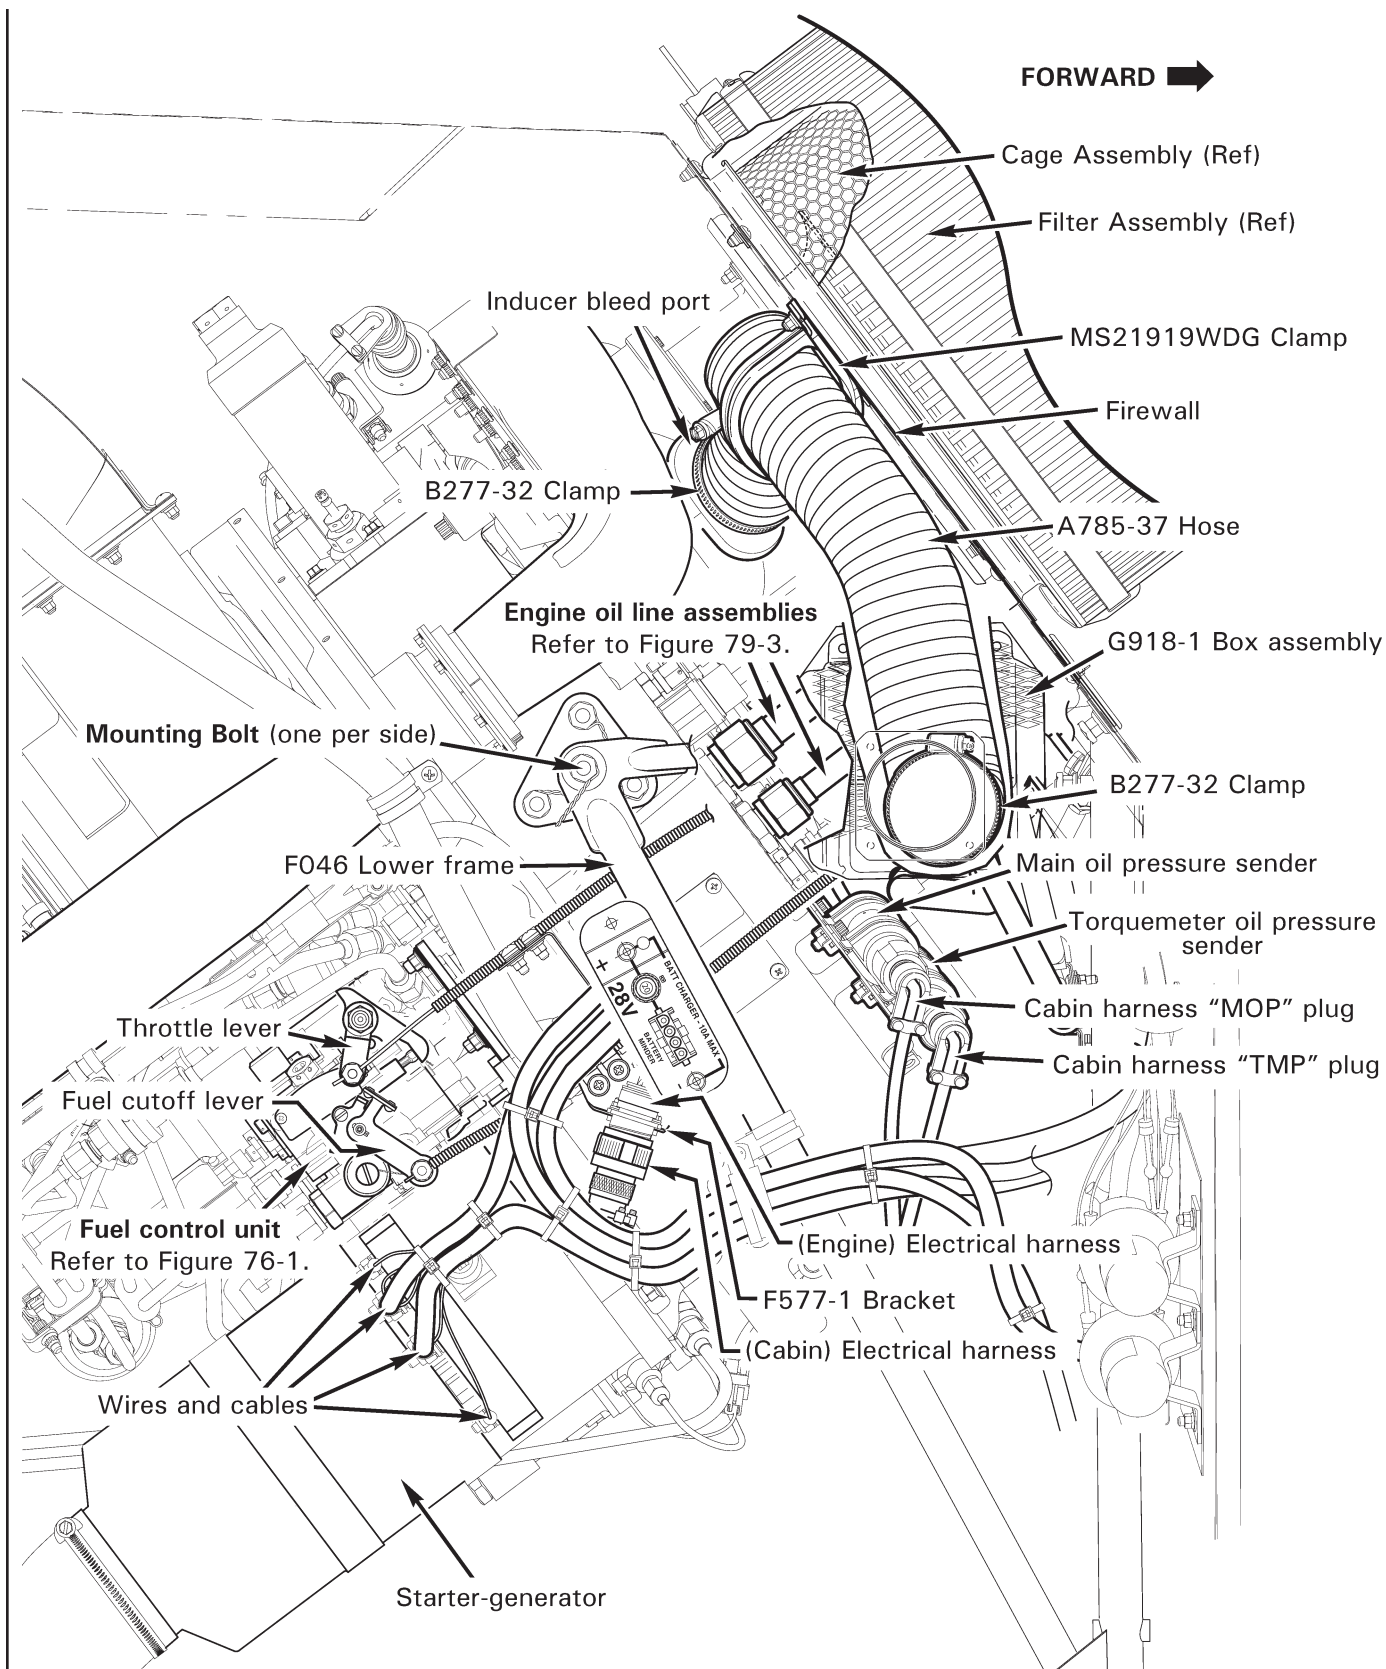

FIGURE 71-1 ENGINE - RIGHT SIDE
2. Refer to Figures 71-1 and 71-2. Verify heat shrink stamping is legible (or mark wires and cables) and remove hardware securing wires and cables to starter-generator studs. Disconnect (cabin) electrical harness from (engine) electrical harness at F577-1 bracket assembly. Disconnect cabin harness "TMP" (torquemeter oil pressure) and "MOP" (main oil pressure) plugs from engine senders; disconnect cabin harness plug from N2 speed sensor.
2. Refer to Figures 71-1 and 71-2. Connect engine hoist to G200-1 engine lifting lug.
1. Refer to Figures 71-1 and 71-2. Remove hardware securing MS21919WCH clamp(s) to engine vertical firewall and F577-5 bracket (earlier R66s). Loosen B277 clamp(s) and remove A729-68 tubes (if installed), breather hose/tube, and F170 fitting. Install plug.
1. Refer to Figures 71-1 and 71-2. Position G200-1 engine lifting lug on top of engine gearbox, as desired (optional). Install (2) NAS6605-3 bolts and (2) NAS1149F0532P washers, special torque bolts per § 20-33, and torque stripe per Figure 5-1.